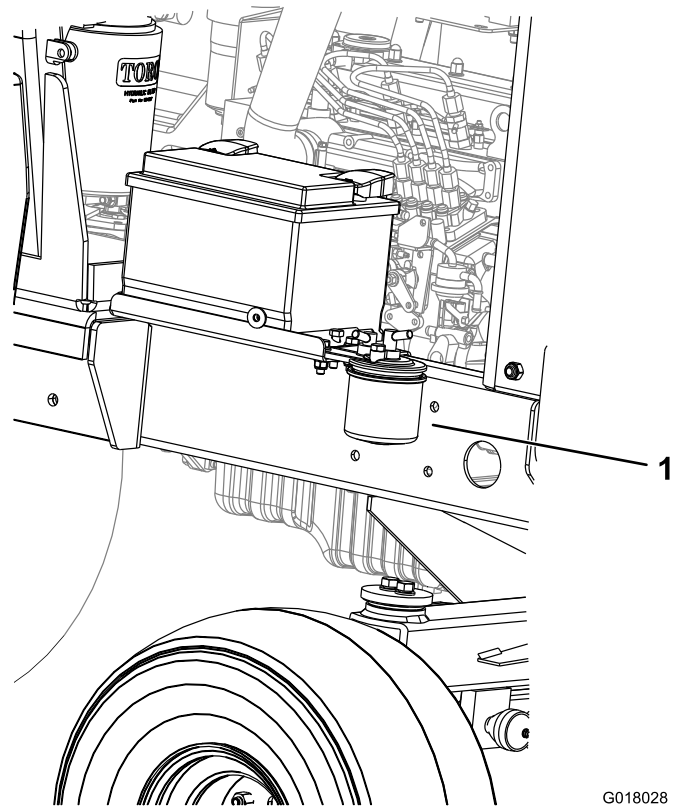

Figure 37
1. Place a clean container under the fuel filter canister (Figure 37).